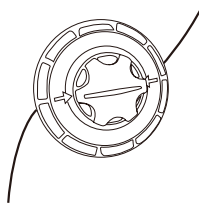

Fig. 7
3. Replacing the cutting line in the line spool (Fig. 7)